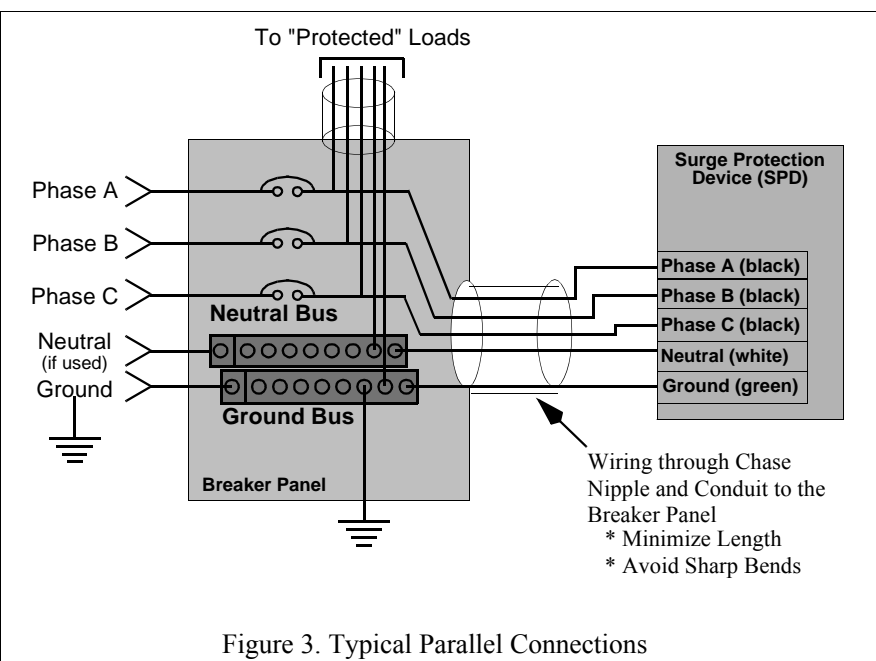

Figure 3. Typical Parallel Connections
7. Trim the leads from the SPD as short as possible, but still allowing the following connections to be made (see Figure 3):